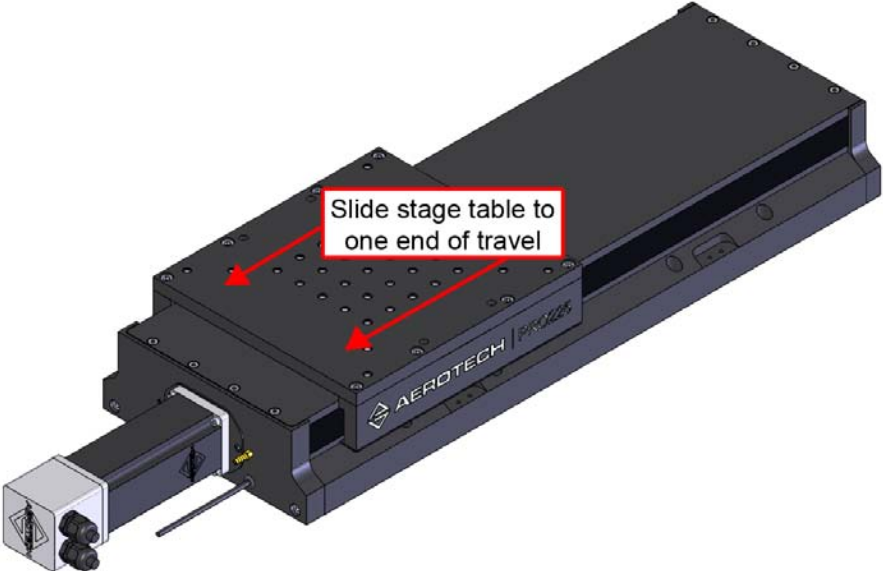

Figure 4-3: Hardcover Removal Procedure (Step 1)
Step 1: Drive the stage table to one end of travel (Figure 4-3) and remove power to the stage.